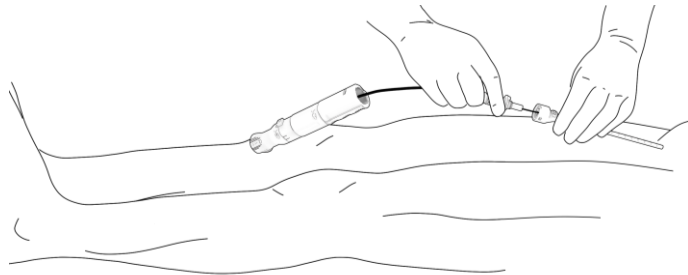

Figure 8. Advance the PerQseal® closure device to the Introducer-sheath.
- b. Advance the Loading cannula over the guidewire towards the Introducer-sheath hub, Figure 8. If difficulty is experienced tracking over the guidewire, ensure the guidewire is not kinked and that it is free of coagulated blood and thrombus.